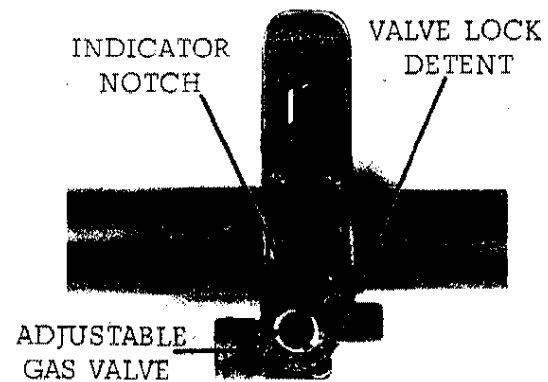
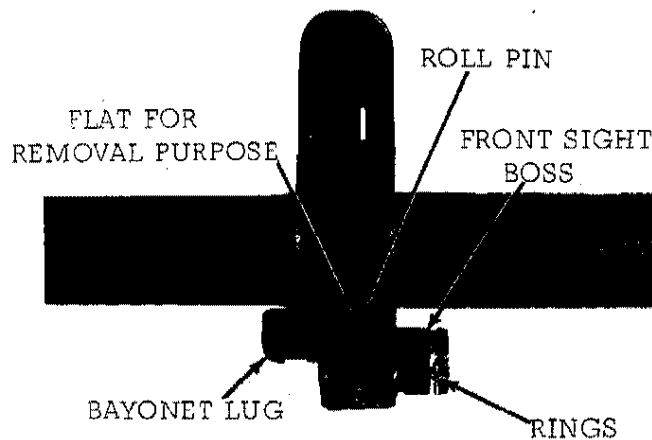

FIGURE 5. ADJUSTABLE GAS PORT (RIGHT SIDE VIEW)
FIGURE 6. ADJUSTABLE GAS VALVE (LEFT SIDE VIEW)
i. Adjustable gas valve. The adjustable gas valve is located in the front sight base (figure 5 and 6). The valve can be set to any one of three positions. By inserting the point of a cartridge into the hole over the valve lock detent (figure 5), and pushing down on the detent, you unlock the valve which then may be moved one way or the other dependent on which size gas port setting is desired. The slowest rate of fire is obtained when the narrowest indicator notch is set over the valve lock detent and the detent allowed to lock the valve in place. The three indicator notches are sized according to the size of the gas port aligned with the gas port in the barrel. The widest notch is used when the fastest rate of fire is desired. This valve may be removed for cleaning purposes by rotating the valve (figure 6) until the flat exposes the roll pin. Then push the valve out from the left side.